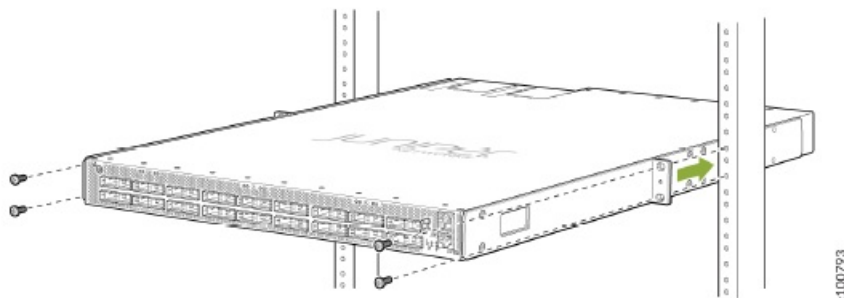

Figure 6: Attach the PTX10001-36MR to a Two-Post Rack
7. Have a second person secure the device to the rack by using the appropriate mounting screws (and cage nuts and washers if your rack requires them). Tighten the screws. See Figure 6 on page 8.